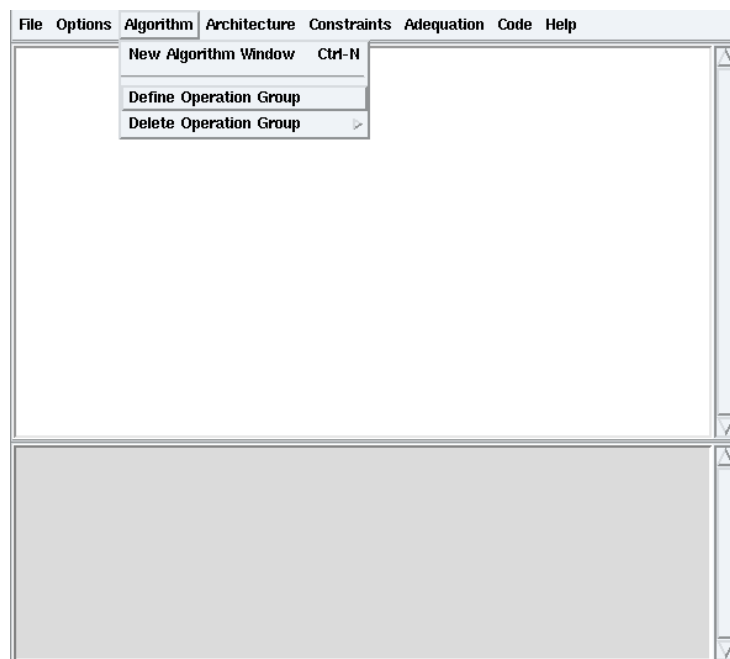

Figure 1.22: Define Operation Group
- **Algorithm / Define Operation Group** (cf. figure 1.22) → dialog window: **og1 og2 og3**,